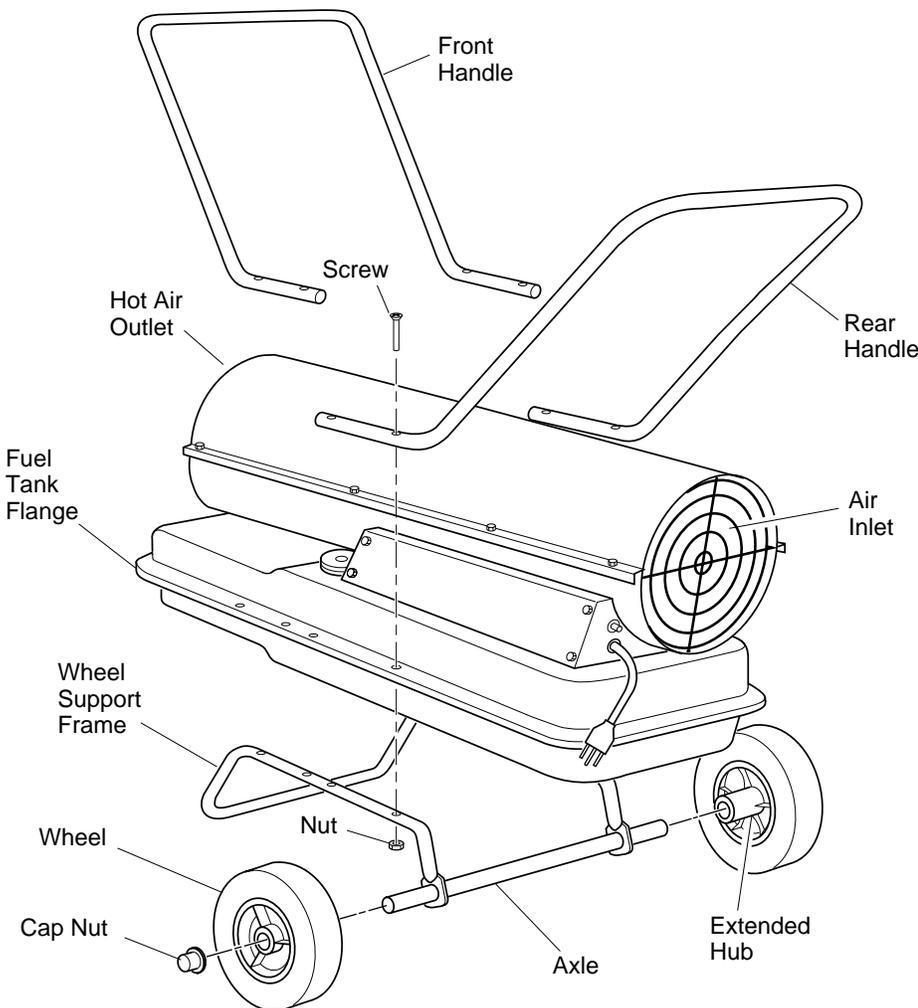

Figure 2 - Wheel and Handle Assembly
*IMPORTANT:* When installing wheels, point extended hub of wheels toward wheel support frame (see Figure 2).